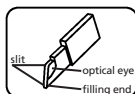

Fig. 1
- a) The shape of the microcuvette and the names of the different parts of the microcuvette can be seen in figure 1.